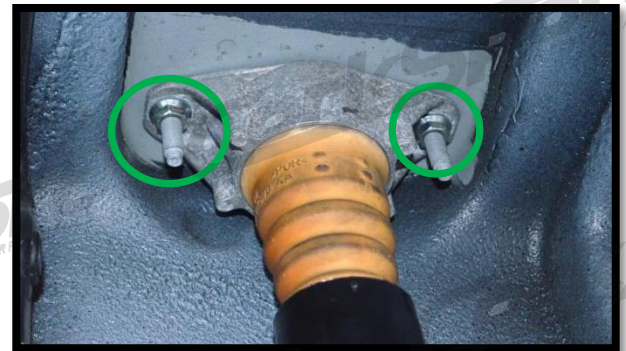

Figure 4b
- g) Remove the two (2) upper damper nuts with a deep 12mm socket (Figure 4b). Remove the damper from the vehicle.
g) Remove the two (2) upper damper nuts with a deep 12mm socket (green arrows in Figure 4b). Remove the damper from the vehicle.